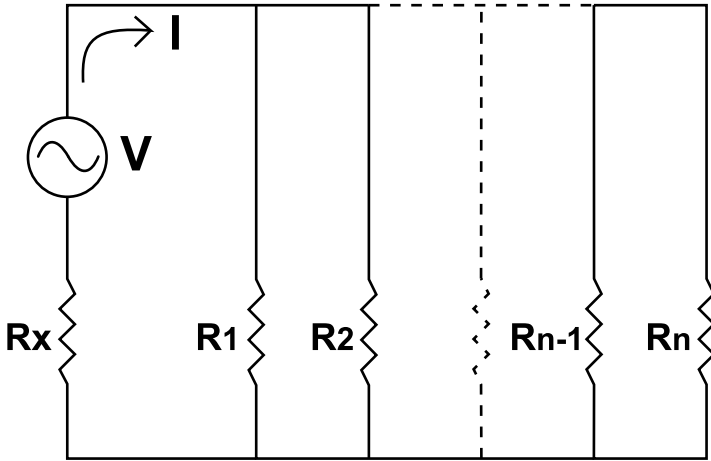
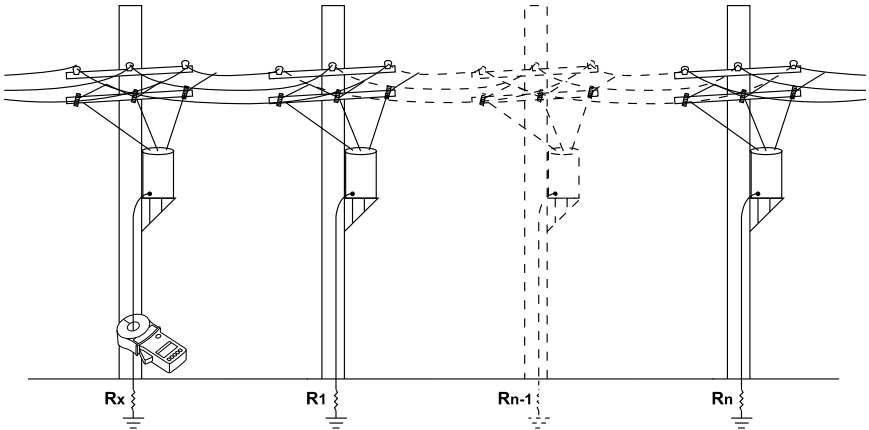

Figure 20
Figure 21
Typically grounded distribution system may be simulated by the basic circuit shown in Fig. 20 or an equivalent circuit, shown in Fig. 21. If voltage (V) is applied to any measured grounding electrode Rx through a special transformer, current (I) flows through the circuit, thereby establishing the following equation: